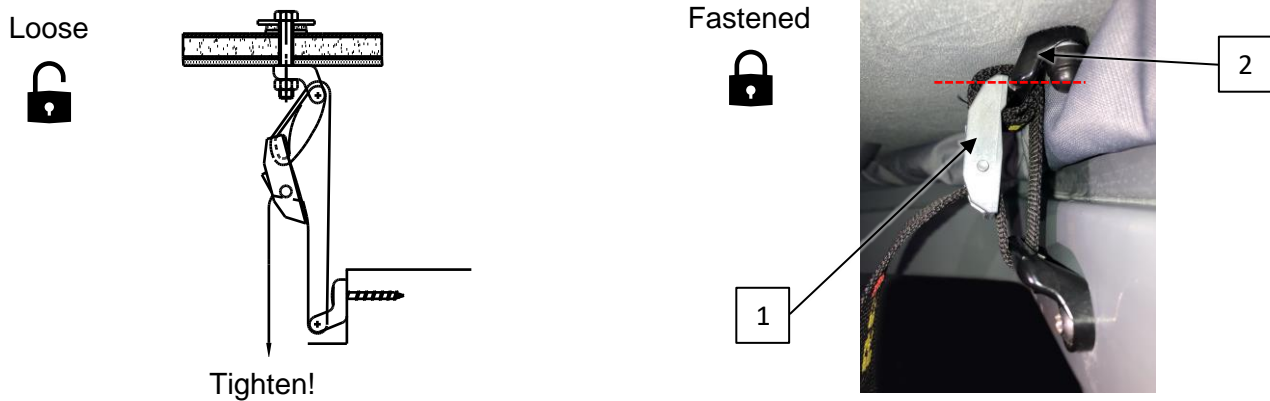

Fig. 7-1: Webbing guide of the lock
- Attach the belt according to Fig. 7-1 and tighten it: **The buckle (1) must rest on the bracket (2)!**